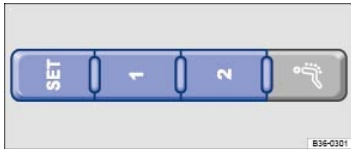

Fig. 86 On the outer side of the driver seat: Memory buttons.
- Make sure the transmission is in park (P).
- Press the **SET** button for longer than one second ⇒ Fig. 86.